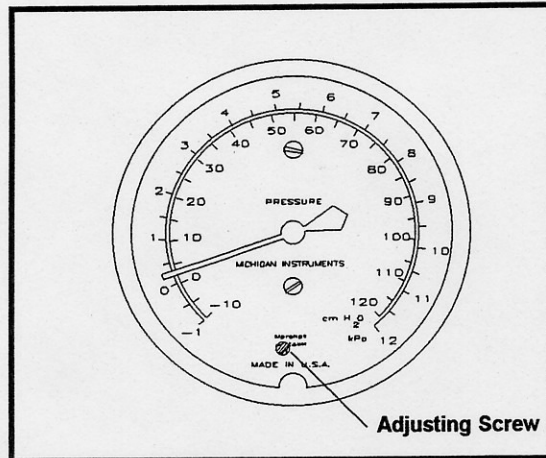

Figure 4-A
3. With the airway open to air, ensure that the right lung, airway, and pressure gauges are reading zero. If any of the gauges must be zeroed, remove the plug in the gauge crystal, and turn the adjusting screw until the needle of the gauge is set to zero (Figure 4-A).